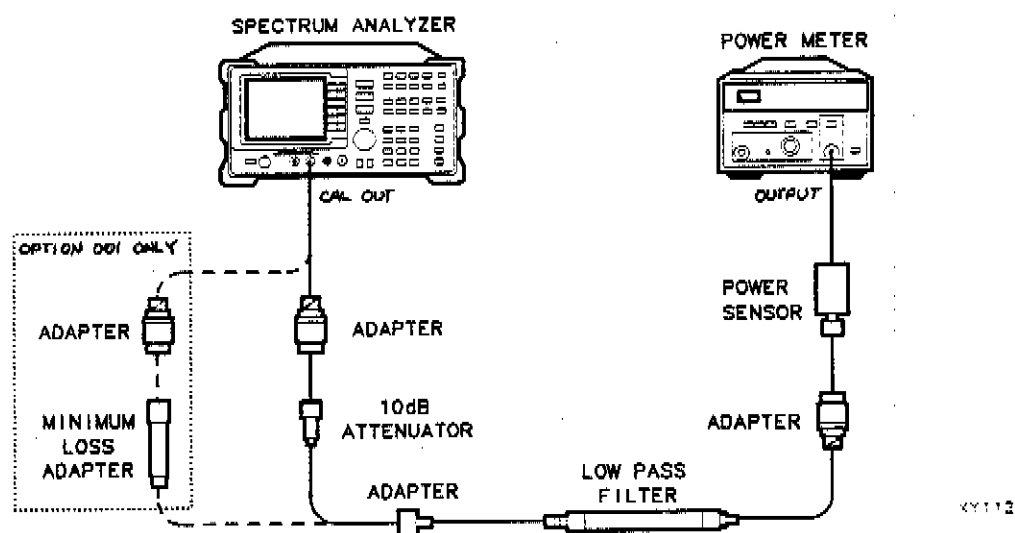

Figure 1-12. Calibrator Amplitude Accuracy Test Setup
11. Connect the equipment as shown in Figure 1-12. The spectrum analyzer should be positioned so that the setup of the adapters, LPF, and attenuator do not bind. It may be necessary to support the center of gravity of the devices.